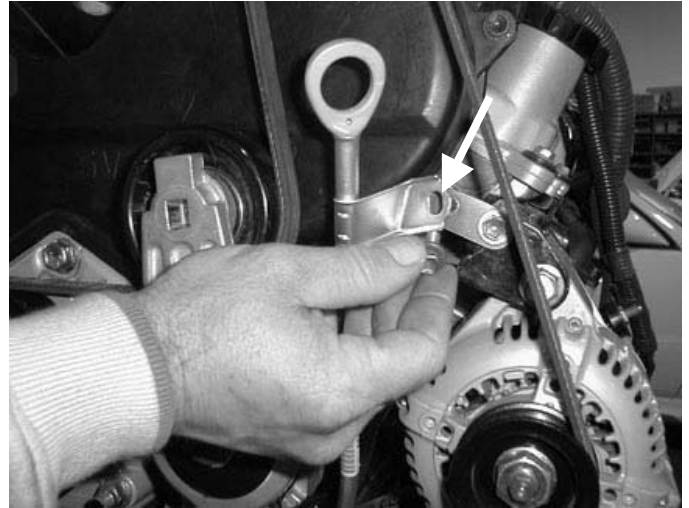

Figure 19
5. Reposition the dipstick tube bracket and install the bolt removed in Step 11 on Page 5 (Figure 19). Torque the bolt to 10 ft-lbs.